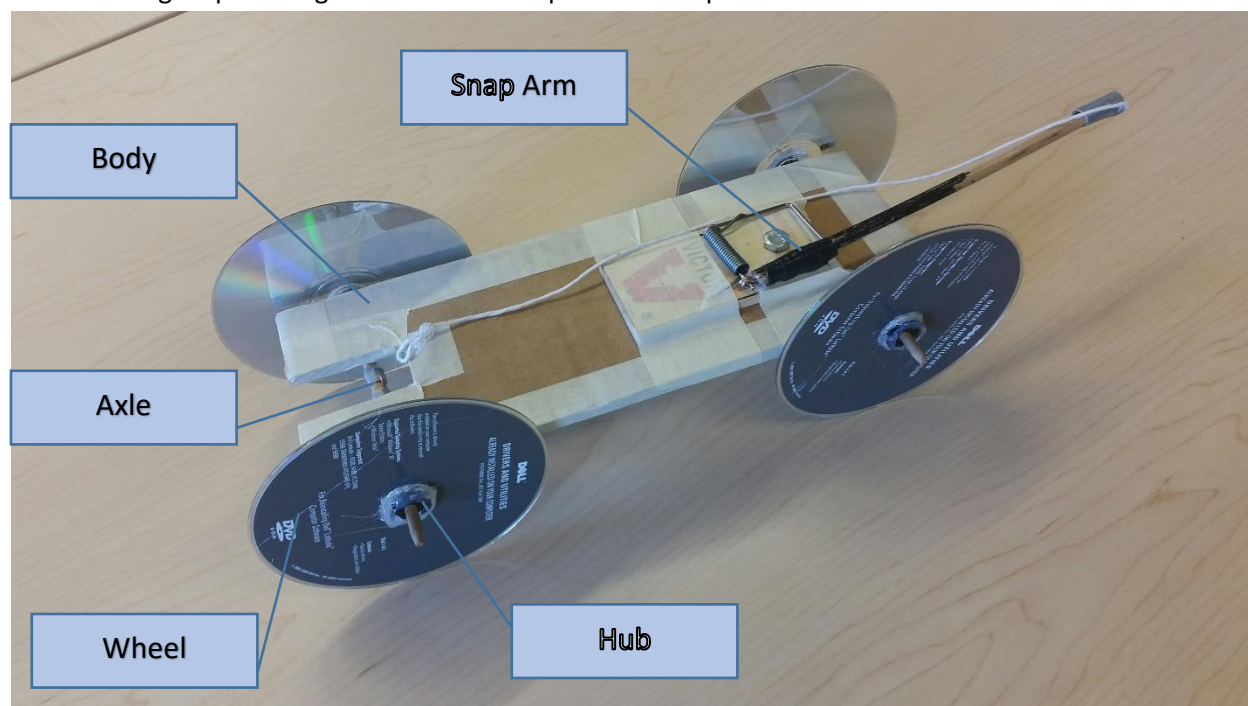

Figure 1 Basic car design
Step 4 – Glue the mousetrap in place on the topside of the car with the glue gun. Be sure the closed snap is facing away from the notch in the cardboard. See Figure 1 for placement.
Step 5 – Use 2 zip ties to secure the ¼ inch dowel to the snap arm and reinforce with tape or hot glue (Figure 1).
Your car should look something like Figure 1. Hook the Loop over the zip tie hook on the rear axle and wind the wheel up. Place the car on the floor and let it go. You will likely have to tinker a bit with it to make it run smoothly.